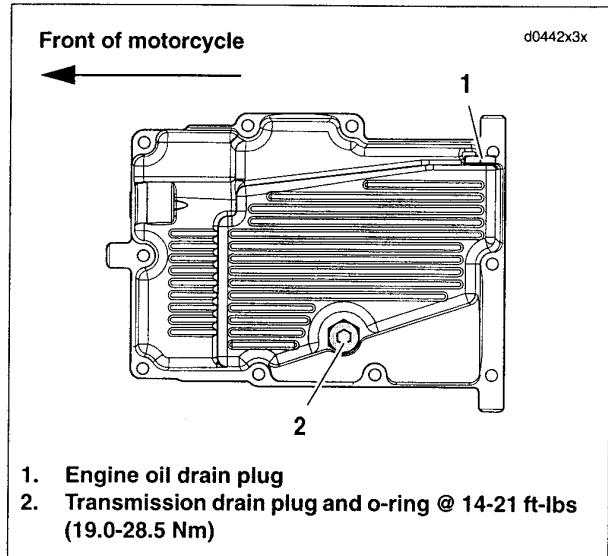

Figure 1-33. Oil Pan
- 2. See Figure 1-33. Remove transmission drain plug (2) and drain lubricant into a suitable container.